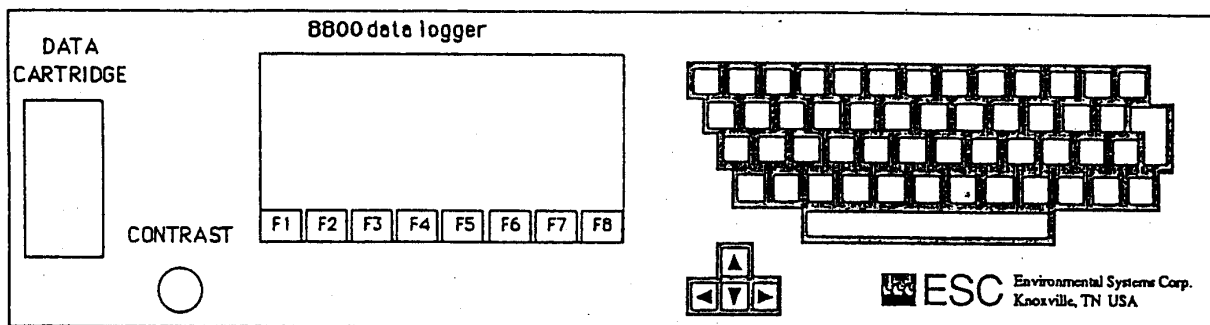

Figure AH.1.1.1
2. Front Panel - Figure AH.1.1.1 shows the front panel for a standard ESC 8800 data logger, consisting of: